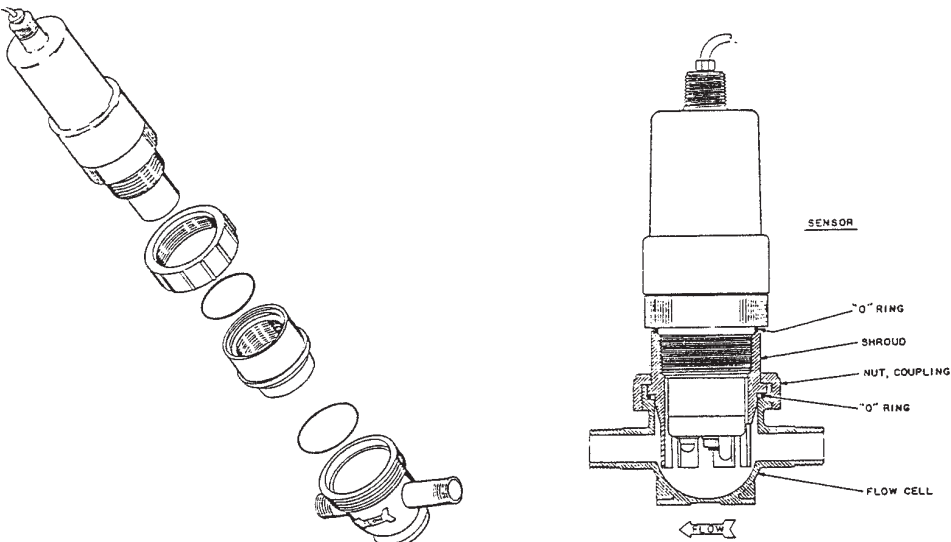

FIGURE 2-4. Flow Through Installation Diagram (Code 03 or 04)
2.4 FLOW THROUGH INSTALLATION (Code 03). To install the sensor in the flow cell proceed as follows (see Figure 2-4):
3. With the coupling nut thread in place, thread the electrode shroud onto the sensor body (see Figure 2-4), insuring that the O-ring is properly seated and does not become pinched or twisted.
The coupling nut must be inserted between the lower body assembly of the sensor and electrode shroud (see Figure 2-4).
4. Follow Steps 2 through 7 in Section 2.4 for sensor installation into flow assembly (see Figure 2-4).